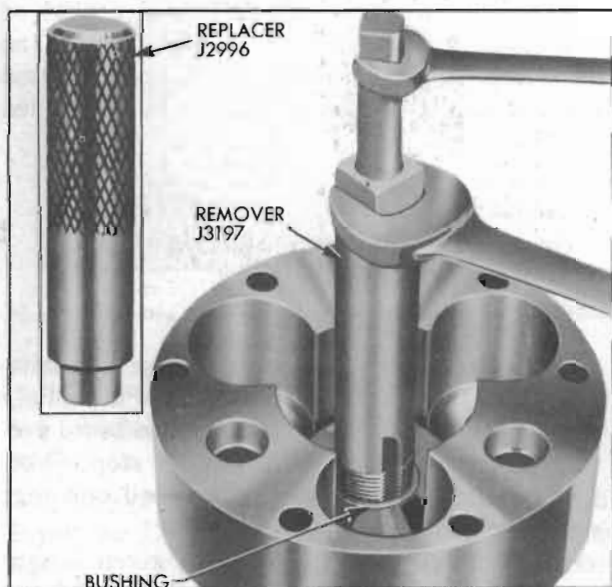

Figure 4-126—Replacing Planet Carrier Bushing
4. Inspect bushing in rear end of planet carrier, and replace it if worn or scored. The bushing may be removed with Busing Remover J 3197 and new bushing may be installed, either end first, by using Bushing Replacer J 2996. See figure 4-126. Reaming to size is not required.